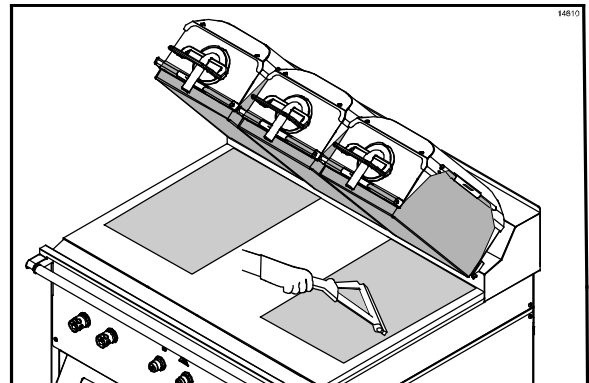

Figure 74
51. Repeat the last two steps for the release sheet on the other side of the grill. (See Figure 74.)